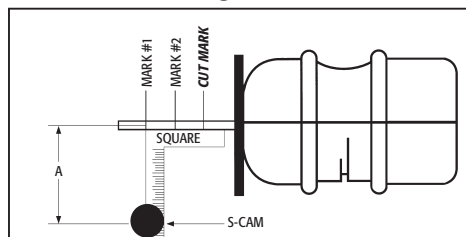
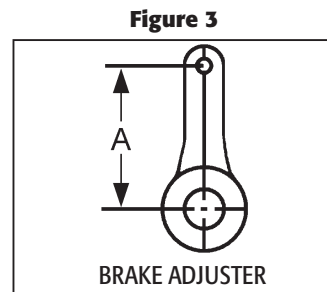

Figure 2
Figure 3
C. Measure the distance from the centerline of the S-Cam to the centerline of the push-rod (See Figure 2 - Dimension A). This measurement should be equal to the length of the brake adjuster being used. (See Figure 3 - Dimension A).
NOTE: If Dimension A - Figure 2 and Dimension A - Figure 3 are not identical, the chamber mounting bracket is either bent and must be straightened or replaced, the chamber has been mounted improperly in the bracket or the length of the adjuster installed is incorrect. Make any necessary corrections before going to Step D.
E. Using a square, mark the push-rod at the 90° setting (See Figure 2 - Mark #1). From this mark, subtract the measurement recorded in Step D and make a second mark on the push-rod (moving toward the brake chamber mounting surface). (See Figure 2 - Mark #2).